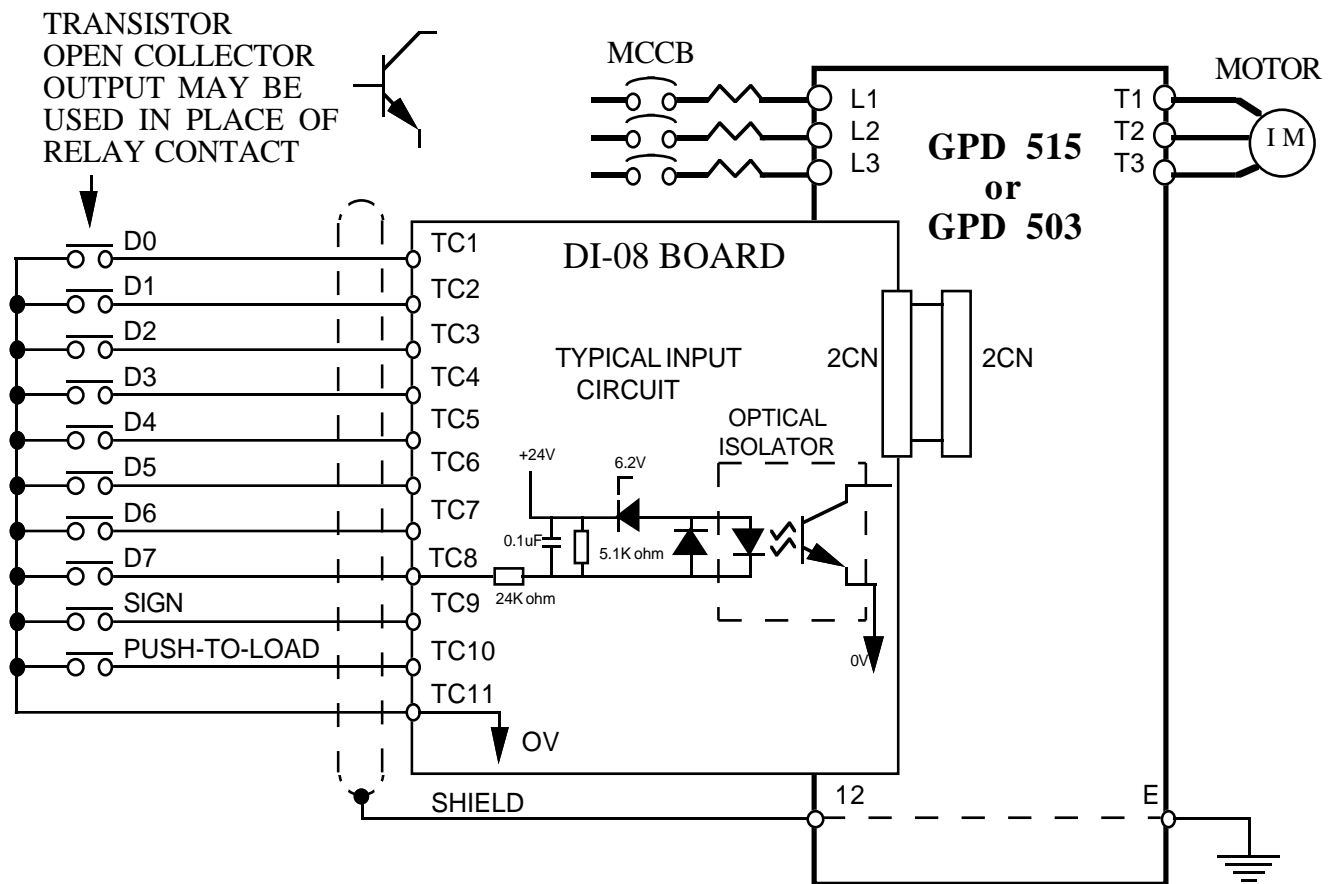

Figure 3. Interconnection for Digital Speed Reference (DI-08) Circuit
5. Wiring. See Figure 3 for Digital Speed Reference (DI-08) connections. Connect digital input signals to terminals TC1-TC10 (+) and TC11 (-). See Table 2 for terminal functions.